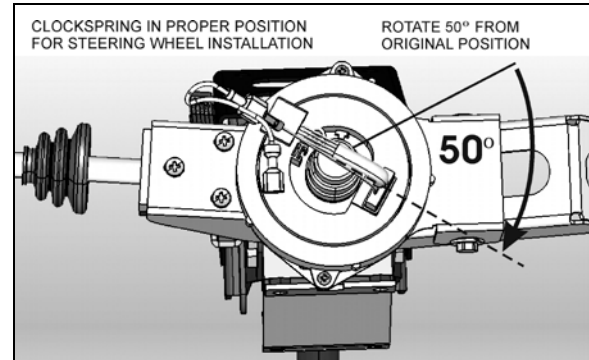

FIGURE 14: PROPER CLOCKSPrING POSITION
5. Break the paper seal and rotate the center part of the clockspring about 50° clockwise (Fig. 14). This step is necessary for the installation of the steering wheel.